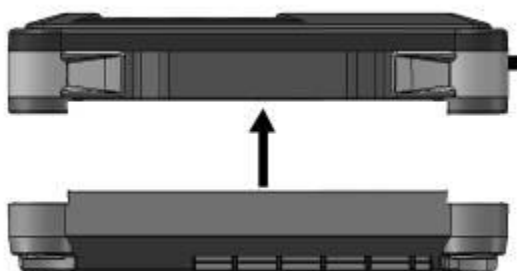

Figure 9, Lifting head off unit.
2. Lift the top (or "head") off the bottom of the unit as show in Fig. 9: